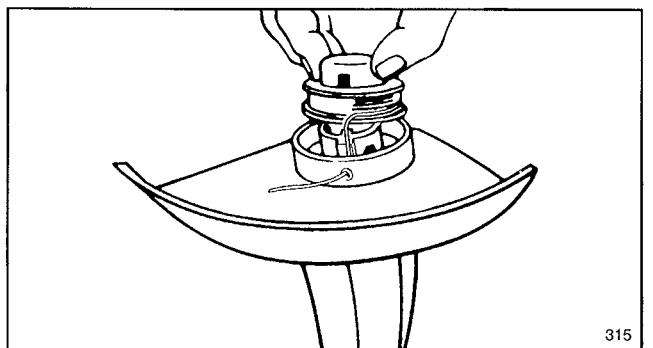

Figure 21
- D. The spool and core are keyed and **must** be properly aligned when putting spool back on. With line still retained in spool groove, thread end of line through eyelet, place spool onto keyed spool core, and push spool inward until you hear it click (Fig. 21 & 22). Pull line to free line from groove in spool. Unwind no more than three inches of line from spool.